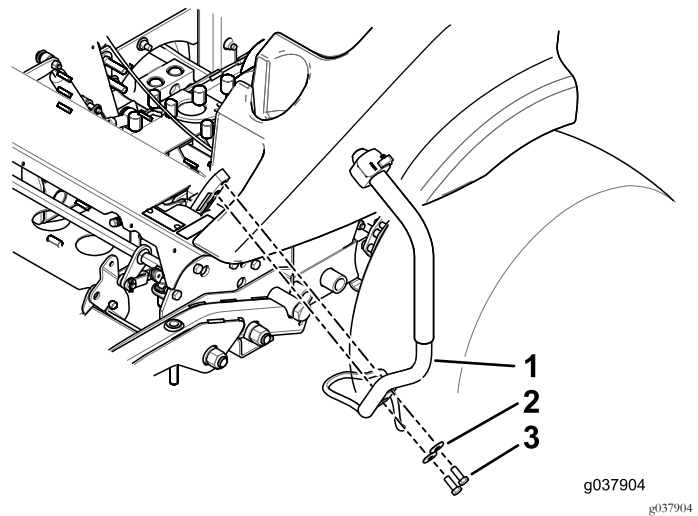

Figure 13
2. Install the new handle with the existing washers and bolts (Figure 13).